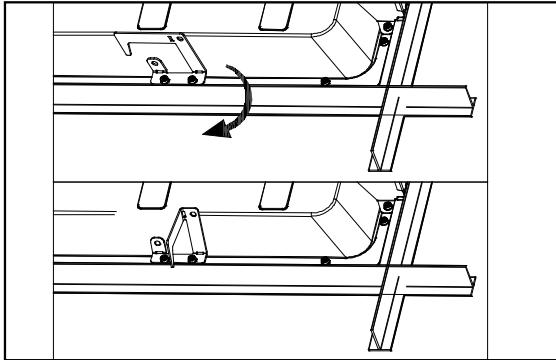

Figure 3.
- Alignment clips are provided for additional retention to ceiling system. Orient 4 tabs on back of fixture over T-GRID by bending tabs up 90 degrees perpendicular to back of fixture. Next bend tabs 90 degrees towards T-GRID frame (Fig. 3)